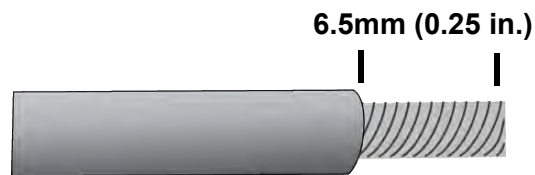

Figure 61. Stripping a Power Cable Wire
1. Strip 6.5mm (0.25 in.) of insulation from the ends of the stranded power wires with a wire insulator stripper. Refer to Figure 61.